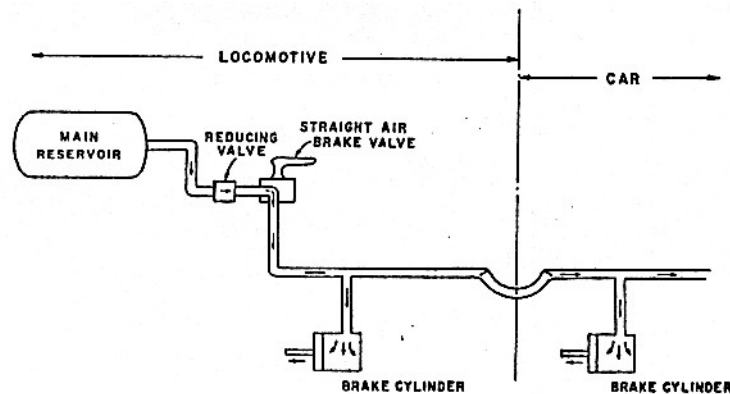

Fig. 4-1 APPLIED
A. STRAIGHT AIR BRAKE (Figures 4-1 and 4-2)